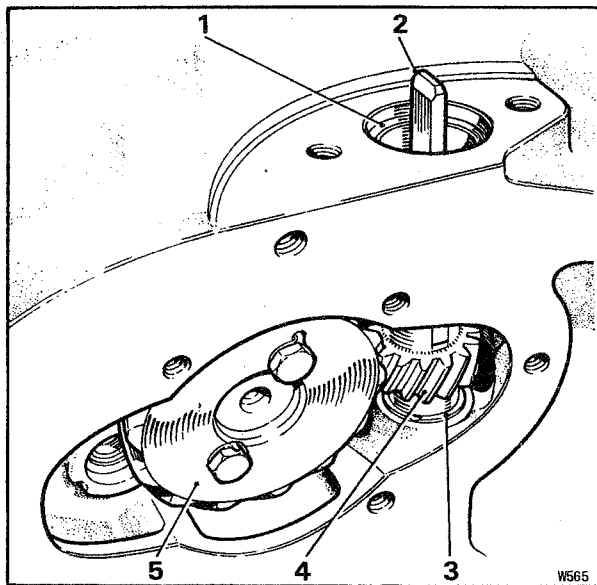

Fig. E31 Distributor driving gears
5. Remove the pressed steel cover from the rear end of the crankcase to expose the distributor driving gears (see Fig. E31).
4. When the gear is fitted, the slot in the top of the gear spindle should be in line with the camshaft (see Fig. E31).